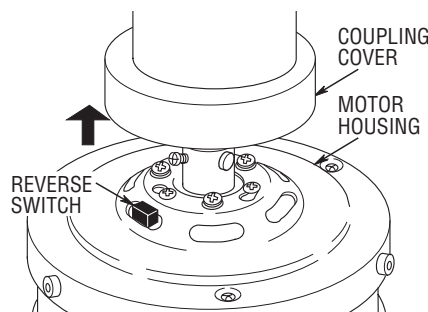

Figure 27
- 5. If airflow is desired in the opposite direction, turn the fan off and wait for the blades to stop turning. Then slide the coupling cover up, push the reversing switch in opposite direction (Figure 27) Slide coupling cover down to rest on motor housing and turn the fan on again. The blades will turn in the opposite direction and reverse the airflow.